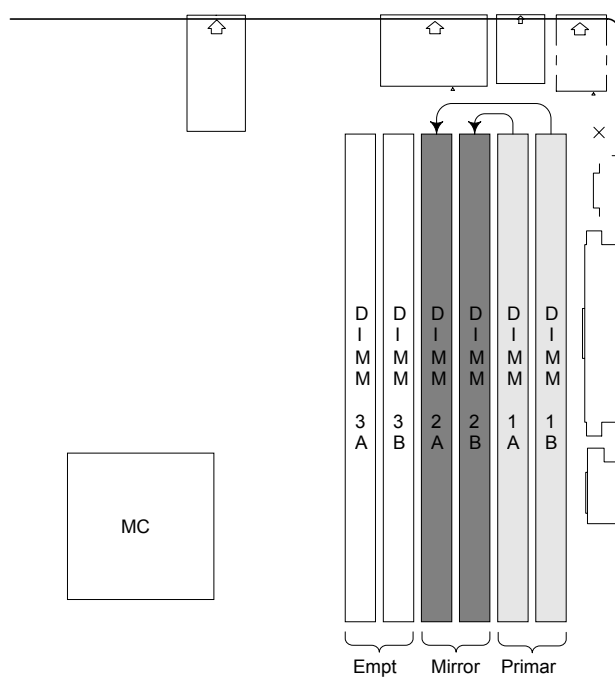

Figure 6. Four DIMM Memory Mirror Configuration
- Four DIMM population of completely identical devices (two per channel). Refer to Figure 6, DIMMs labeled 1A, 2A, 1B and 2B must all be identical.